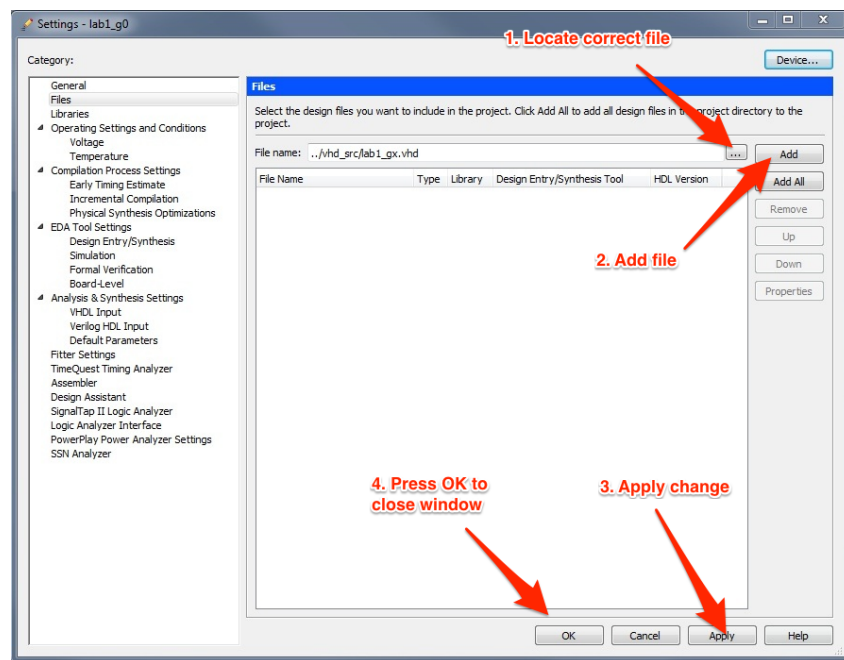

Figure 5:
3. Add the new VHDL file to the project as shown in Figure 5. (Project -> Add/Remove Files in Project).